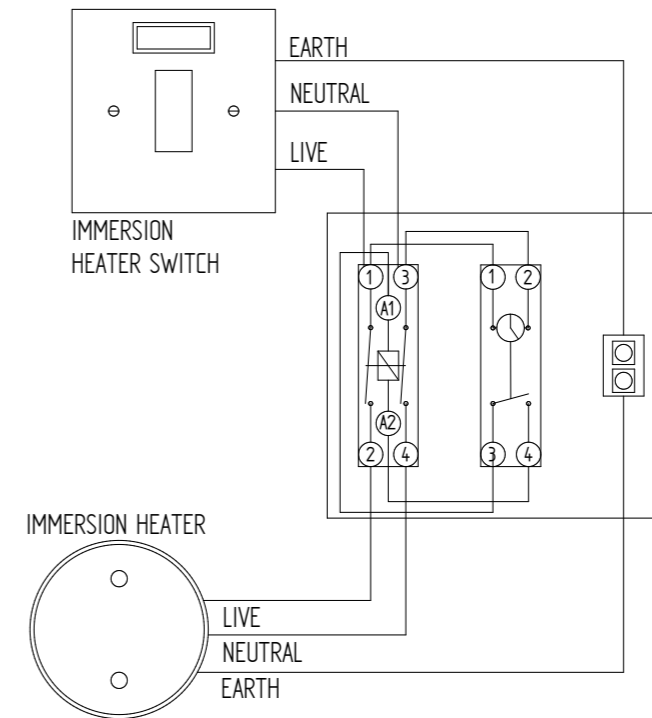

Figure 5-4: Boost kit wiring diagram
When installed, this kit interrupts the electrical supply between the existing immersion heater switch and immersion heater. Refer to Figure 5-4 for electrical connection details.
**Do not alter the pre-wired connections within the enclosure and only make the external connections as shown in the wiring diagrams. See Figure 5-4.**